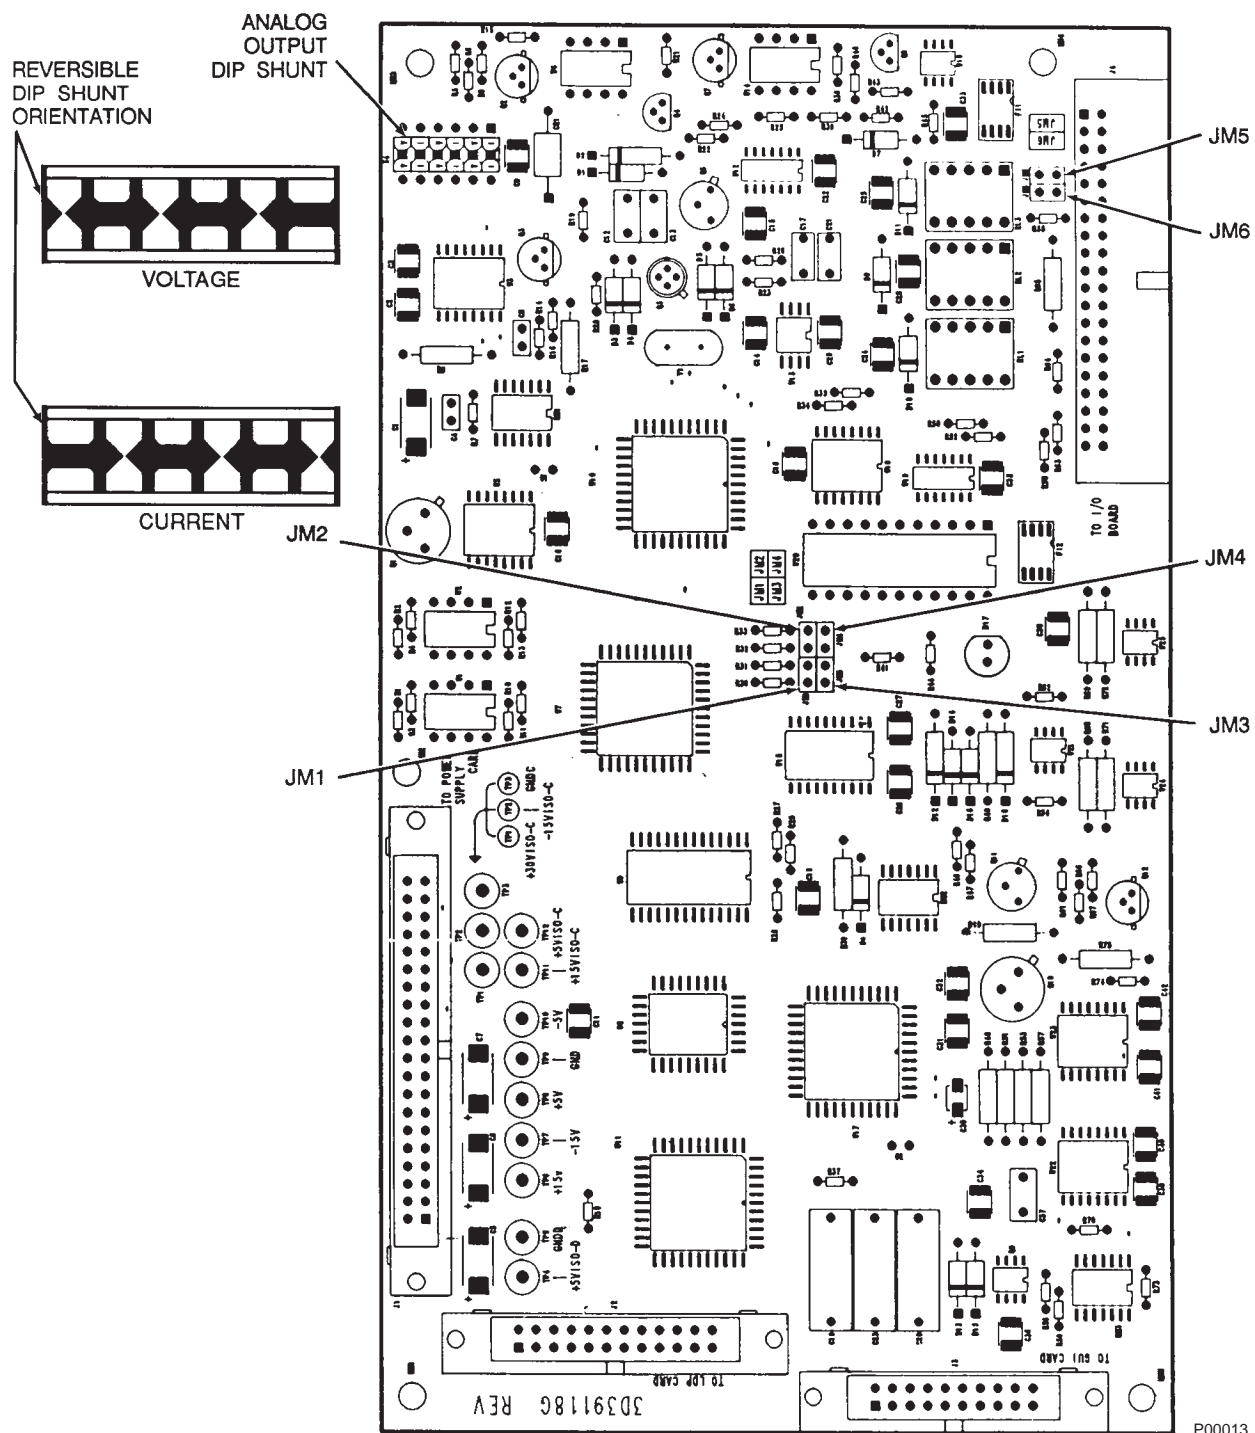

Figure 2-8. IFT Microprocessor Board Jumper Configuration
- The IFT must have JM6 on the microprocessor board (Figures 2-8 and 2-9) and JM1 on the interconnect board (Figures 2-10 and 2-11) installed if an HPS is not installed in the system.
1. The microprocessor board has a socket for a dip shunt to select voltage or current operations. Figure 2-8 shows the dip shunt orientation. In voltage mode, output is 0-10 V. In the current mode, the output can be configured from the setup menu to be 0-20 mA or 4-20 mA.
(See Figure 2-8 for jumper locations.)
Refer to Figures 2-8 and 2-10 for proper IFT jumper configuration. IFT microprocessor and interconnect board jumper configurations must be set correctly in order for HPS to work properly.